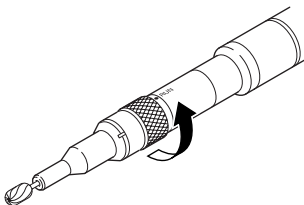

Figure 3. Cutting Accessory Locked Into Place
- 2.3. Rotate the lock collar to the RUN position. See figure 3.